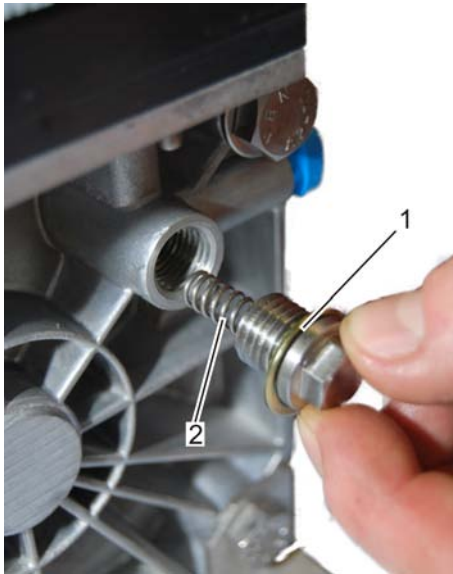

Fig. 49: Removing the threaded union
4. ➔ Remove threaded union with sealing ring (Fig. 49/1) and pilot valve spring (Fig. 49/2) and secure to prevent it from getting lost.